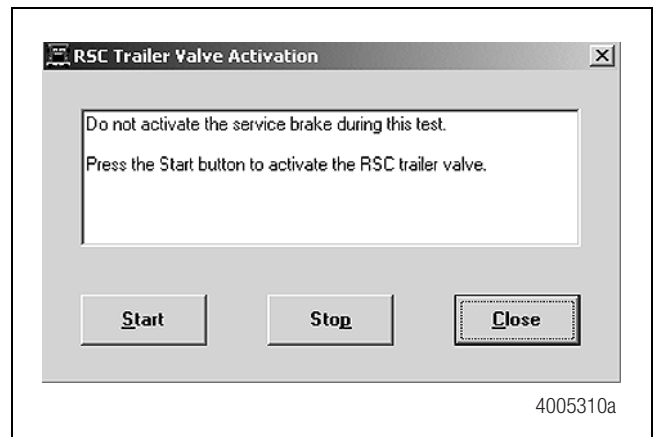

Figure 3.16
**Do not activate the service brake while testing the RSC trailer valve.** Figure 3.16.